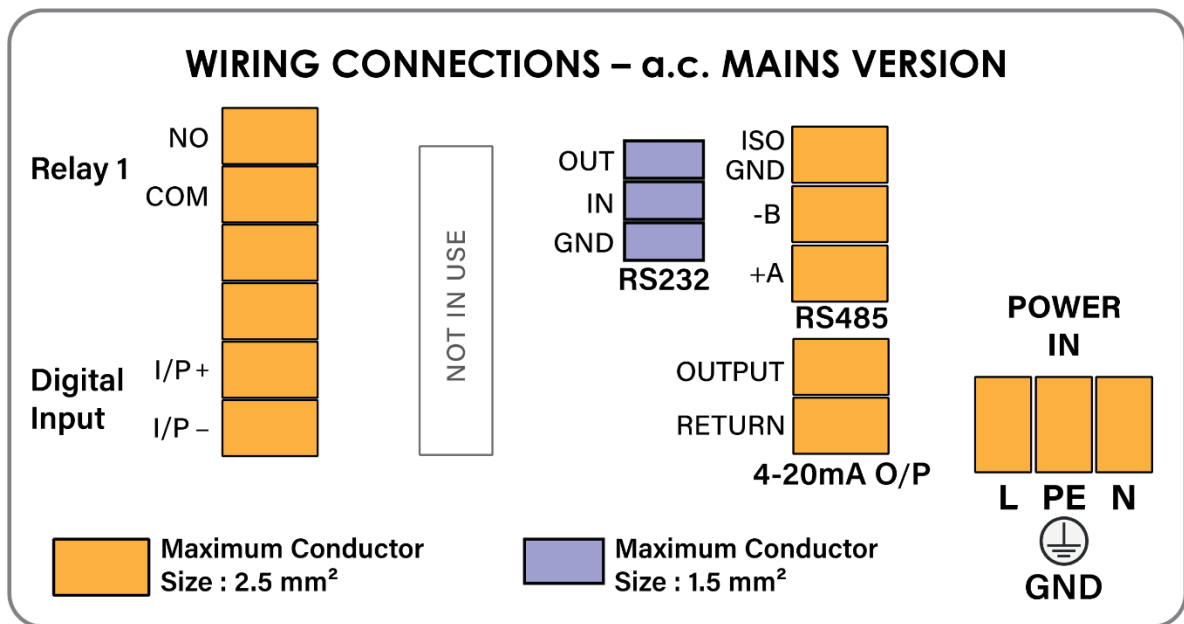

Figure 3: Sensor wiring label – AC versions (inside enclosure lid)
3. Referring to **FIGURE 3** above, undo the 2 off screws and remove the PSU cover.